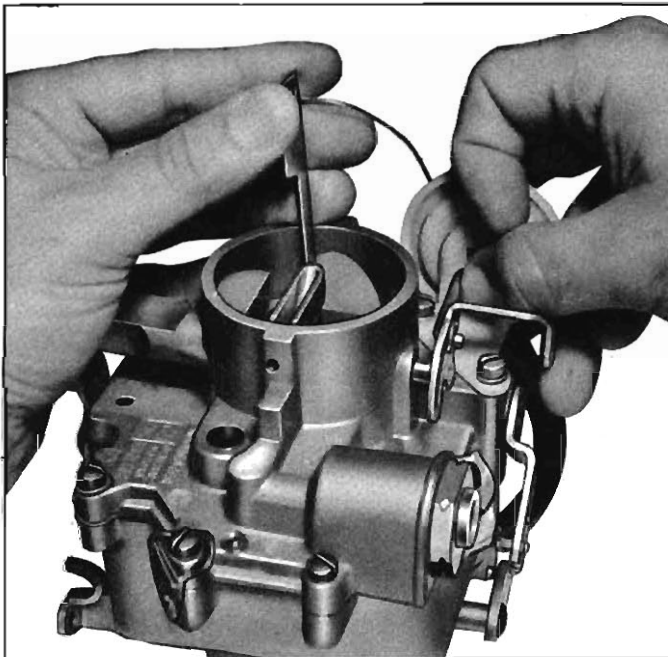

Fig. 7-6—Vacuum Diaphragm Adjustment.
(Refer to Figure 7-6)
- At this setting, throttle lever fast idle tang should rest on second highest step of fast idle cam. If not, adjust by bending outer choke shaft lever tang (fig. 7-6 insert).